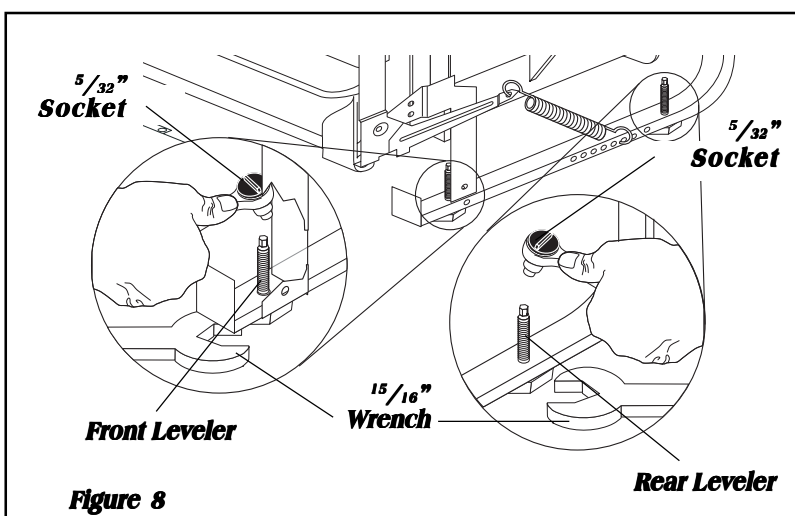

Figure 8
3. Loosen the front and rear leveling legs by turning counterclockwise. Refer to chart for number of turns. See Figure 8. Front levelers should allow ¹/₄" below underside of countertop.